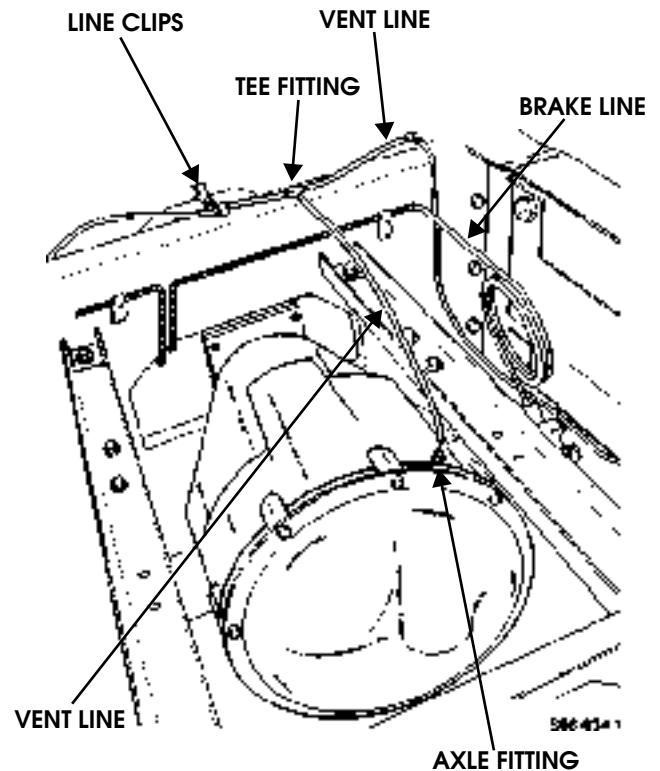

Figure 9-50: Axle Vent Line Location
1. Disconnect vent line from axle fitting and tee fitting and remove vent line (Figure 9-50).
1. Install vent line and connect to two tee fittings (Figure 9-50).